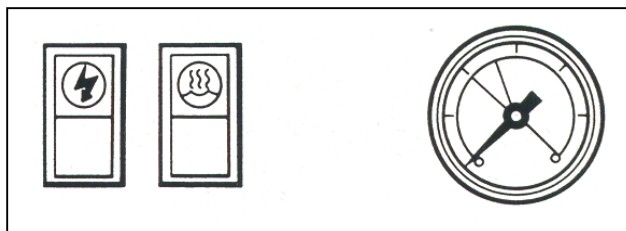

Figure 2. Steam Generator Controls
There are two steam generator control arrangements and two steamer compartment control panels available for Cleveland Range Convection Steamers. The steam generator controls are illustrated in Figure 2. The steamer compartment control panels are illustrated in Figures 3 and 4. Compare these figures with the equipment supplied, and identify which control panel combinations applies.
The steam generator controls are located on the front face of the steamer base unit. The switches are to the left of the pressure gage, as illustrated in Figure 2. Most Cleveland Range Convection Steamers have a steam generator built into the base unit which supplies steam to the cooking compartments. However, an external steam supply may also be used. Units with a built-in boiler have both the POWER rocker switch and the STEAM momentary switch next to the pressure gage. Units with no internal generator have the POWER rocker switch only. They do not have the STEAM momentary switch. Installation, Use and Care Instructions Convection Steamer Convection
a. Press the ON end of the POWER on-off rocker switch located next to the steam pressure gauge (Figure 2). The red indicator light in the POWER rocker switch turns on and the steam generator begins to fill with water units takes about 5 minutes.